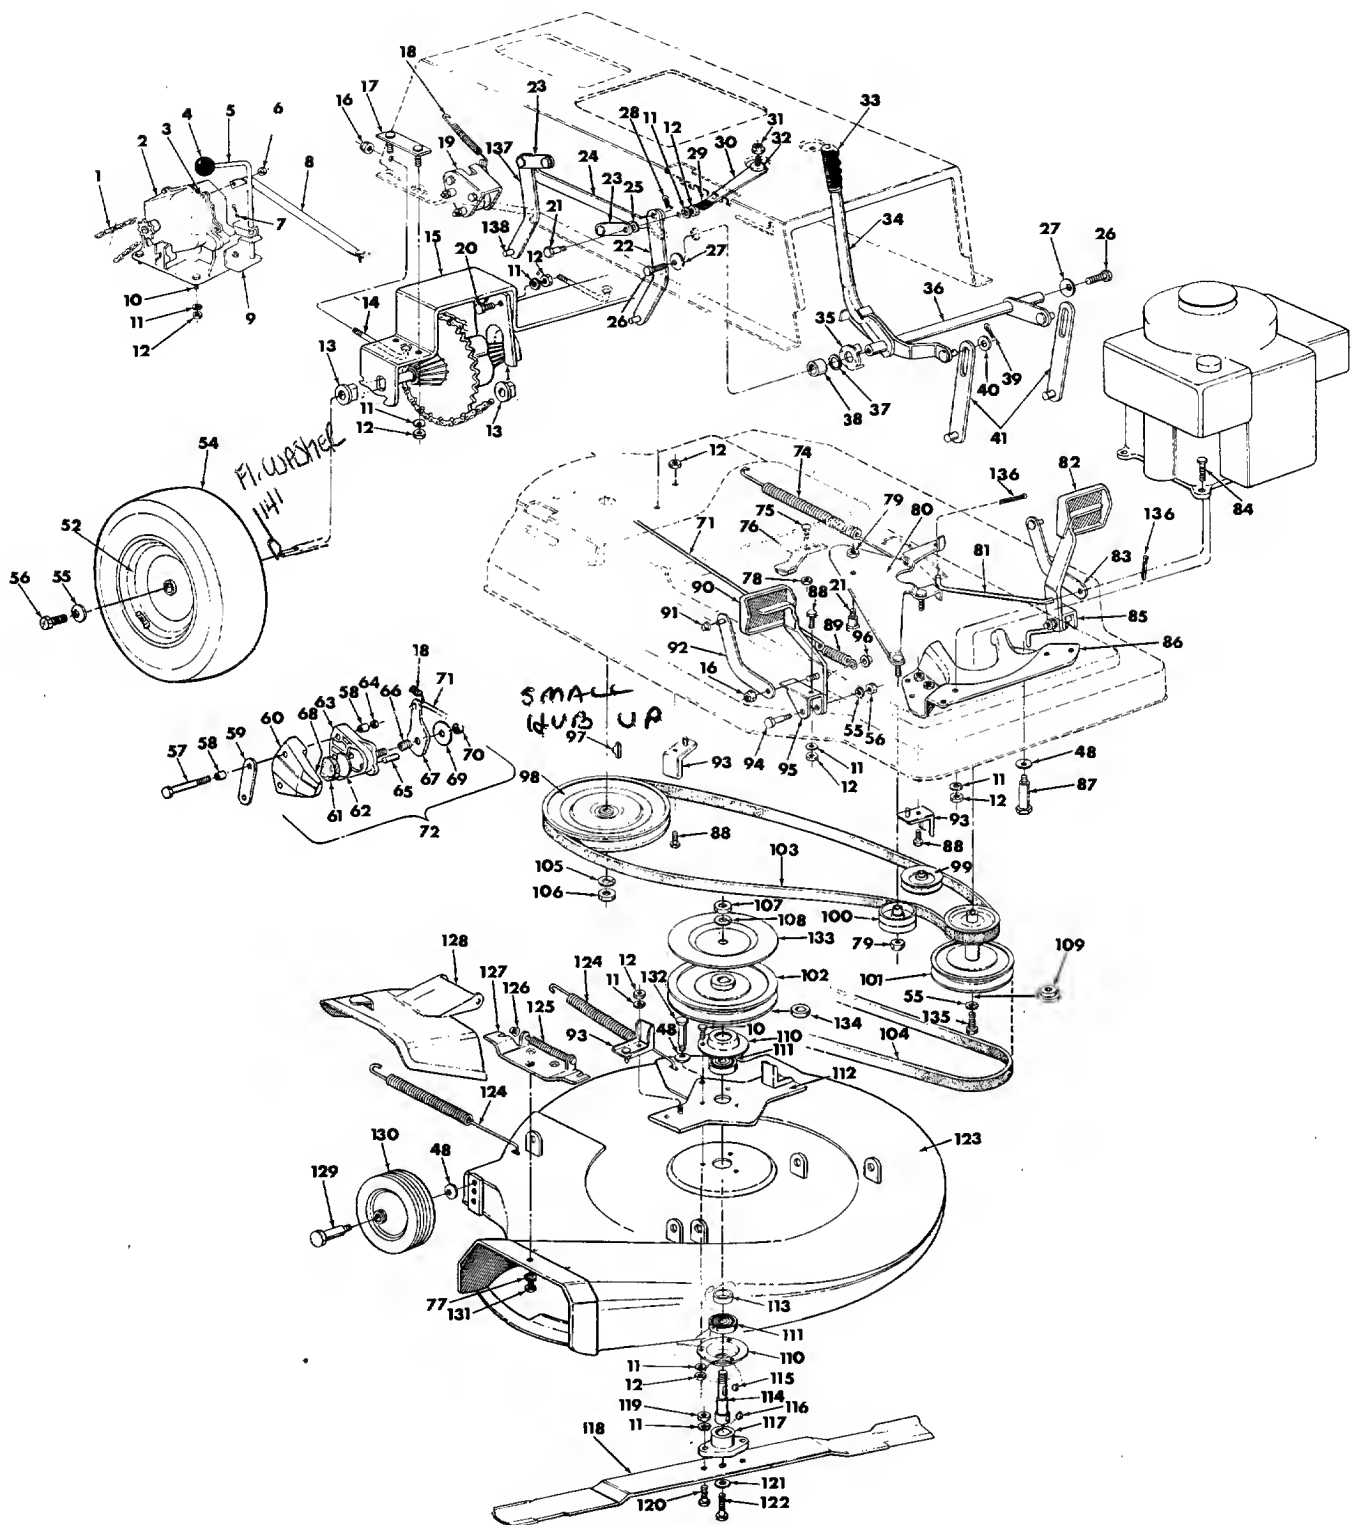

FIGURE 28. CUTTING ASSEMBLY 25"
**PARTS LIST FOR FIGURE 28 — 25" DECK AND FRAME VIEW**